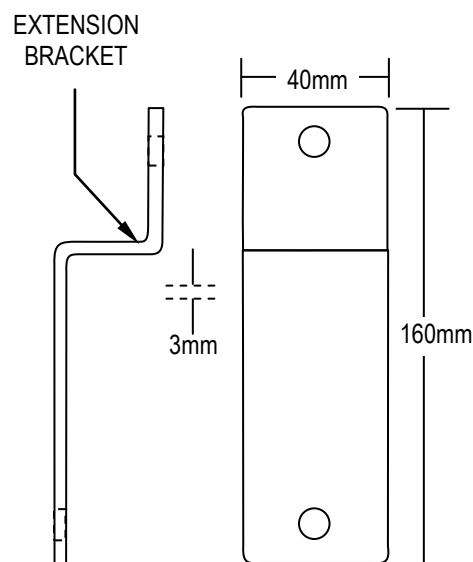

FIGURE 1
- The Extension Bracket measures approximately (W) 40mm x (H) 160mm x (T) 3mm, as shown in Fig.1.